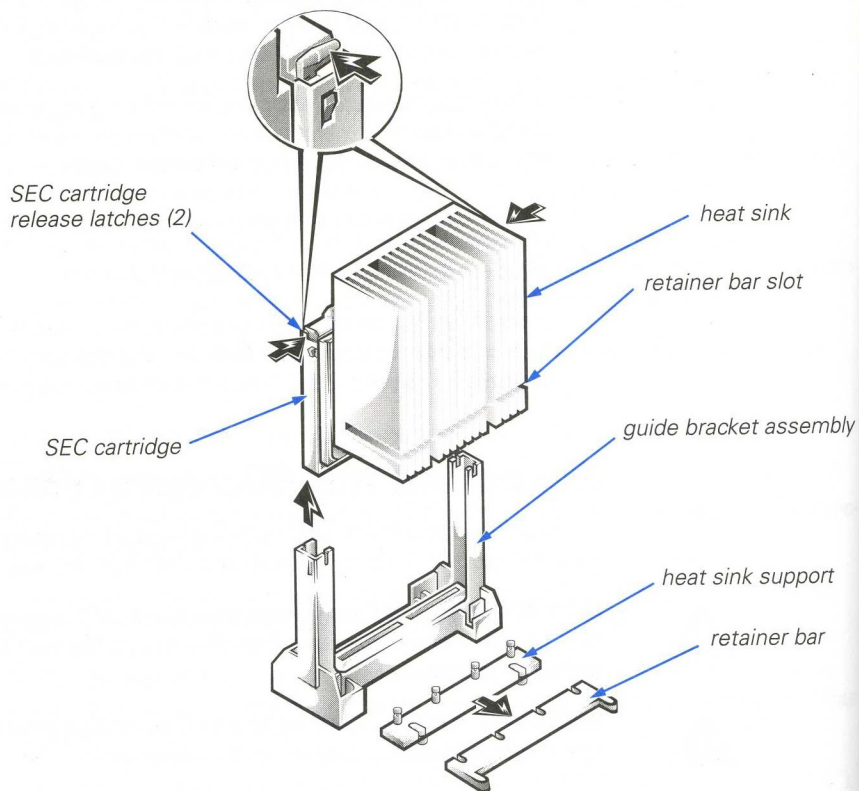

**Figure 6-3. Removing the SEC Cartridge and Heat Sink**
3. Pinch the ends of the retainer bar, and then slide the bar toward the front of the computer to remove it (see Figure 6-3).